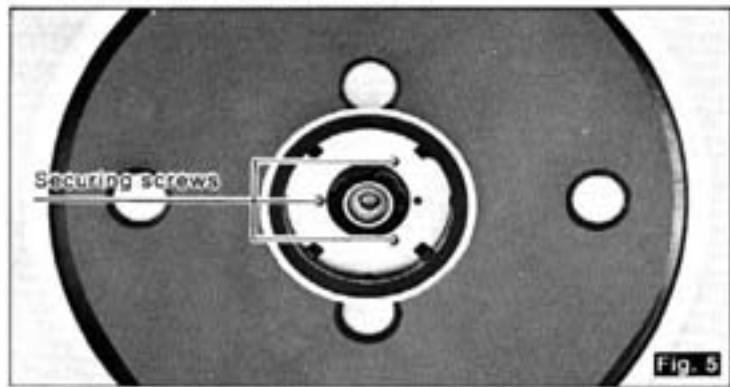

Fig. 5
- 2) Do not remove the three screws for securing the magnet. (See Fig. 5).